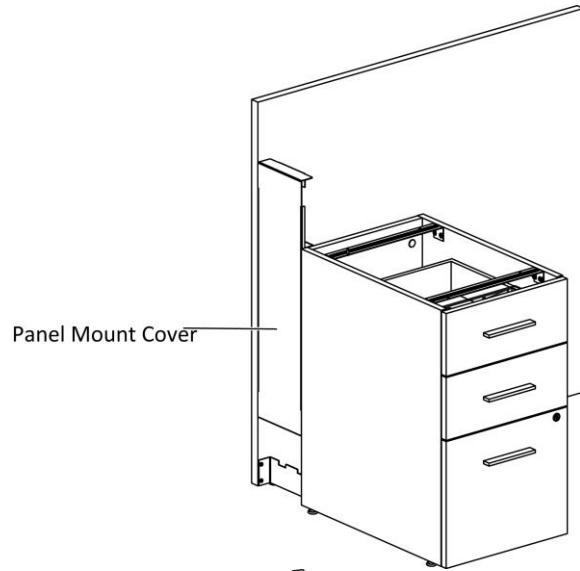

Figure 3
8. Place the panel mount cover between the gallery panel and pedestal, (Figure 3).